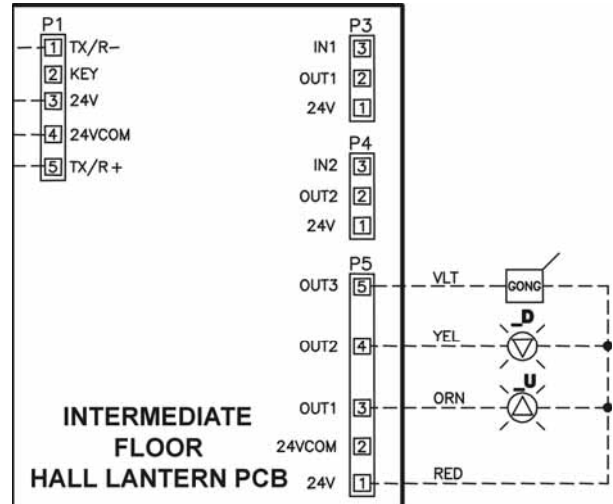

Figure 1-31
- Connect the Hall Lantern cable to the P5 (5 pin) connector on the HPU board. [See Figure 1-31.]